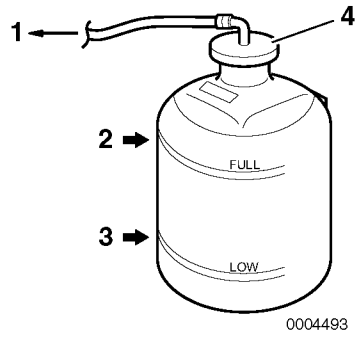

Figure 12
6. Check the coolant level in the reservoir. The level should be at the FULL mark (**Figure 12, (2)**).
7. Remove reservoir cap (**Figure 12, (4)**) to add coolant if necessary. Do not add water.
9. Check the rubber hose (**Figure 12, (1)**) connecting the reservoir to the coolant tank / heat exchanger. Replace if damaged.